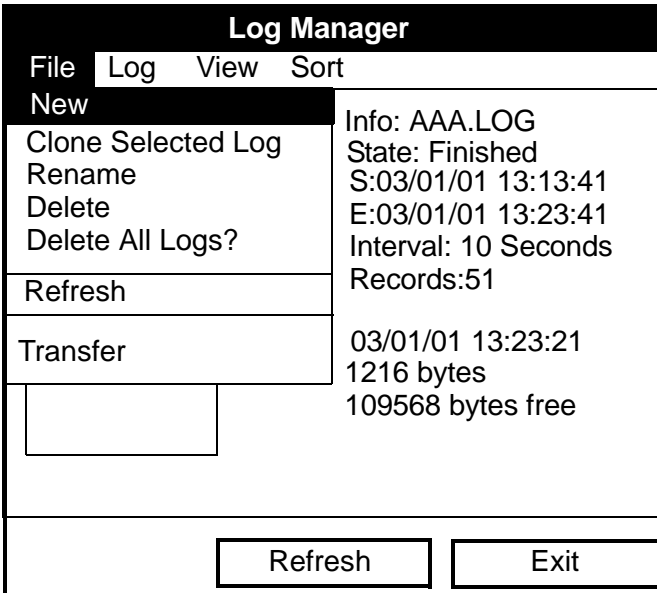

Figure 90: File Menu in the Log Manager
The File menu allows you, not only to create new logs, but also to copy, rename or delete logs, as well as to print them or transfer them to a PC. To open the File Menu from the Log Manager, press the [MENU] key and then [ENTER]. The screen appears similar to Figure 90 below.
- by scrolling to the New option in the File Menu of the Log Manager (as shown in Figure 90 on page 134) and pressing [ENTER].